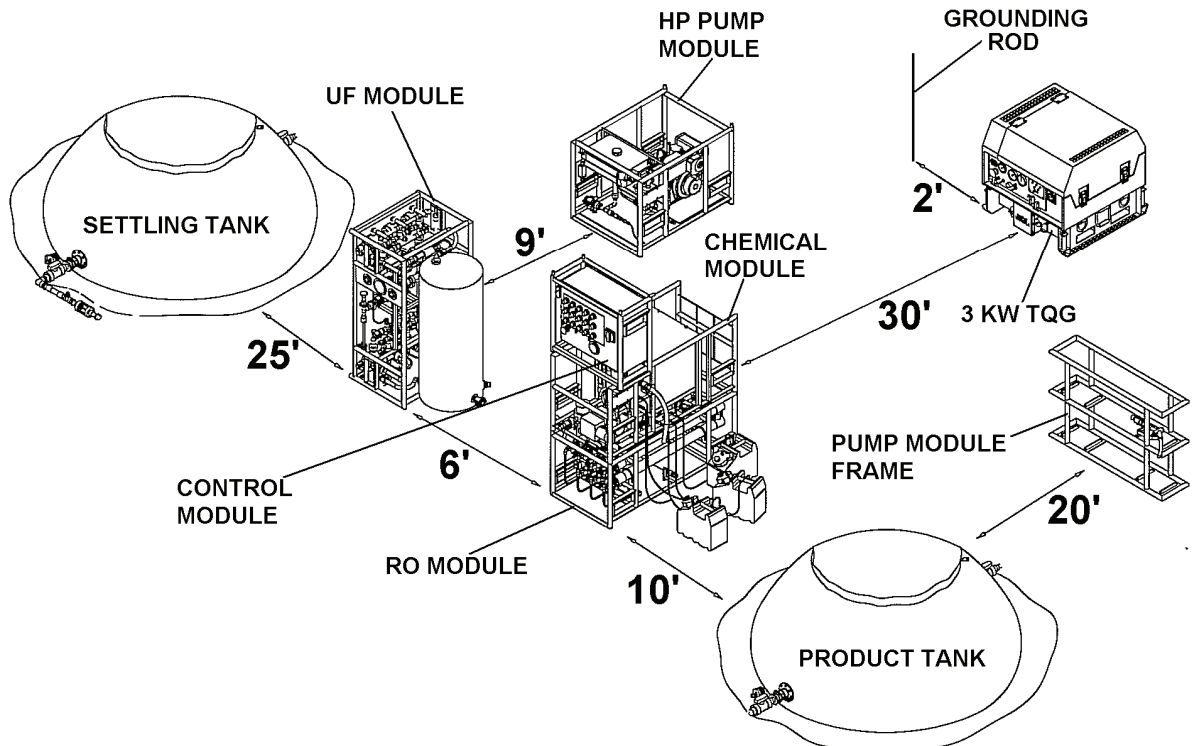
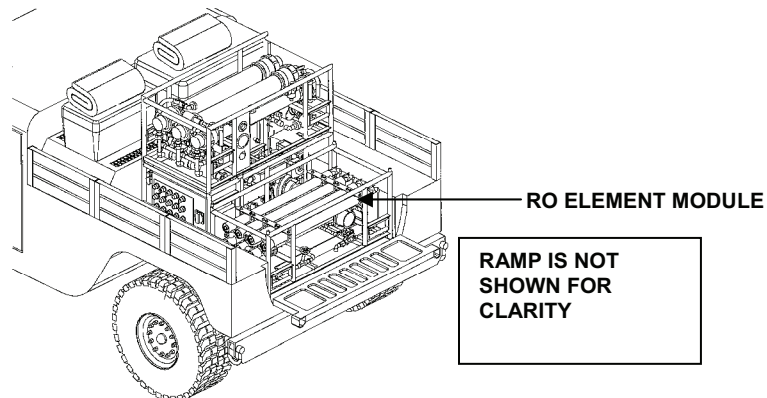

Figure 8. Recommended Distances Between the Components.
Figure 10. Offloading Reverse Osmosis Element Module.
- Stage the service pump modules in the LWP operational area. Placement will be near the product tank. It is not necessary to connect the modules at this time. For approximate locations of the modules see Figure 8.
7. Offload chemical module from the vehicle. Place in the center of the operational area until the Reverse Osmosis (RO) element module is offloaded. See Figure 8.
9. Offload RO element module from the vehicle. Stage the RO module in the center of the LWP operational area. Make sure the sampling valves are facing the operator. See Figure 8, Figure 10.
10. Stack the chemical module on top of the RO module. Make sure the three chemical injection pumps are also facing the operator. See Figure 8.
13. Stand the UF module upright with the metal grate on the bottom. Ensure that the bottom of the filtrate tank is on the ground. Position the UF module as level as possible. See Figure 8.
16. Stack the control module on top of the chemical module at least 3 in. (7.5 cm) from the edge of the module. The switches on the control panel should be facing the operator. See Figure 8.
18. Remove the three small 2.5-gallon chemical tanks from the module and place them on the ground, on the right side of the RO module near the chemical tubing connection point. See Figure 8.
20. Place the high-pressure pump module to the rear of the UF module, approximately 10 ft (3.05 m). (See Figure 8.
24. Position the product water tank downstream of the stack of the control module, chemical module, and RO modules approximately 6 ft. (1.83 m) See Figure 8.